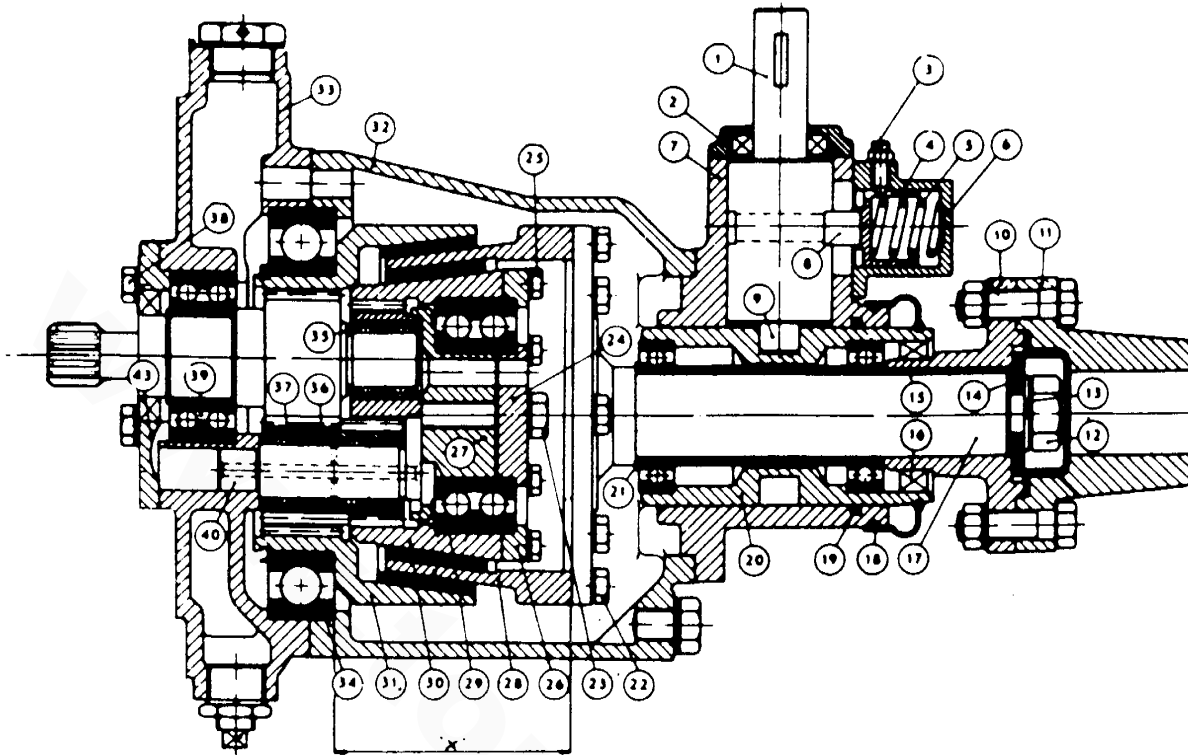

Fig. 2. Cross-section of reduction-reverse gear, ratio 1.9 :1
The repair instructions refer to Fig. 2 for ratio 1.9 :1.
3. Remove the bolt (12) and pull off the coupling flange (10). Also lift off the rubber protector (18). The key (15) need not be removed.
4. Remove the reverse gear lever from the control shaft (1). Then remove the cover (2). Pull out the control shaft (1) and the eccentric stud (9) (note the position of the stud which has marked sides).
5. Remove the bolts which secure the reverse gear housing (32) to the casing (33). Part the casing from the housing by means of light blows with a mallet.
6. Remove the bolts (22) and take out the shaft (17) with the sleeve (20).
8. Remove the bolts (23) and the washer (24). Place one of the bolts (23) in the center hole of the support bearing (27) and pull off the gear wheel (30). If the ball bearing (29) is to be removed from the gear wheel, remove the bolts (25) and the ring (26) after which the ball bearing is pressed out.
9. Lift out the cone (28).
10. Remove the gear wheel (31) with bearing (34) from the housing (33). For the reduction-reverse gear with ratio 1.9 :1, removing is made easier by tapping carefully on the bevelled side of the gear wheel (31),
11. See Fig. 2. Remove the bolts (38). The flange (44) need not be removed from the shaft. Press out the shaft (42) together with the cover (43) and the ball bearing. Pres-
12. Drive out the shaft (40) with the gear wheel (37) and the bearing (36). With regard to taking care of the bearings, see point 11.
13. See Fig. 2. Removal of flange (44) and bearing (3) from the shaft (42) should be done in a press after the locking flange has been removed. Pressure must not be applied to the outer circumference of the flange (44).
See Fig. 2. Friction lining wear on the gear wheel (31), which is most subjected to wear, is compensated for by increasing the thickness of the shim (21) as follows: Place the cone (28) in the gear wheel (31) and measure the distance "X" shown in Fig. 4. The amount by which the measurement "X" is less than 85mm (3.35") determines how much the thickness of the shim (21) shall be increased. For example, if the distance measures 83mm (3.29"), then a 2mm (0.08") thick shim should be fitted. If the wear is so great that the measurement "X" is less than 81mm (3.19"), then the worn parts must be replaced. The friction linings in the gear wheel and cone are not interchangeable.
1. Fit the bearing (36) and the gear wheel (37), also press the shaft into the housing.
2. Fit the gear wheel (31) with bearing (34) into the housing (33).
3. See Fig. 2. Fit together the shaft (42), bearing (39), cover (43) and the flange (44) into one unit. The ball bearing (39) is fitted so that the recess on one side of the bearing (Fig.7) faces opposite the teeth on the shaft (42). If the sealing ring in the cover (43) shows the least sign of damage or if it has been removed from the cover, it should be replaced by a new one. A protecting sleeve should be used to prevent damage to the sealing ring by the passage of the keyway in the shaft (42).
4. See Fig. 2. Fit the shaft unit into the housing (33). Take care to ensure that the gear wheel on the shaft (42) meshes with both gear wheels (37 and 31).
5. See Fig. 2. Fit the needle bearing (35).
6. Fit the cone (28) in the gear wheel (31).
7. Fit together the bearing support (27), bearing support (27), bearing (29), cover (24) and the gear wheel (30) into one unit and tighten on the cover (24). The ball bearing is fitted so that the recess one side of the bearing faces away from the teeth on the gear wheel (30). The bearing support (27) and the washer are fitted so that the middle through hole comes upwards.
8. Place the unit in the cone (28).
9. Fit the shaft (17) and the sleeve (20) onto the cone (28).
10. Fit the reverse gear housing (32) over the assembled parts and tighten it onto the housing (33).
11. Fit the rubber protector (18) and the coupling flange (10). Before fitting check that the bolt (12) is well tightened and that the key (15) is properly bedded down in its keyway in the shaft (17).
12. Fit the flange (9), shaft (1), locking plunger (8), sleeve (4), spring (5) and the plunger housing (6). Oil the parts liberally before fitting. The flange (9) is fitted so that its sides marked "O" follow the longitudinal direction of the engine. Fit the reverse gear lever and check the movements of the lever from neutral to "Ahead" and "Astern" positions respectively, which should be equi-distant. If the movement in one direction is appreciably more than in the other direction, this is to be adjusted by turning the flange (9). This is shaped such that the center of the rectangular portion is offset in relation to the center of the cylindrical portion (guide). If the flange is fitted so that the projecting side faces forwards, the movement of the reverse gear lever from the "Ahead" position to "Neutral" is decreased. If the flange is turned half a turn so that the projecting side faces aft, the movement of the lever from "Neutral" to the "Astern" position is decreased.